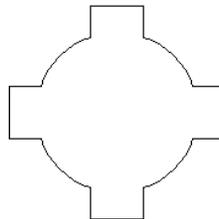

Fig. 1.7.15
**Or:** Retain the none-overlapping part of the objects, see Fig.1.7.15.